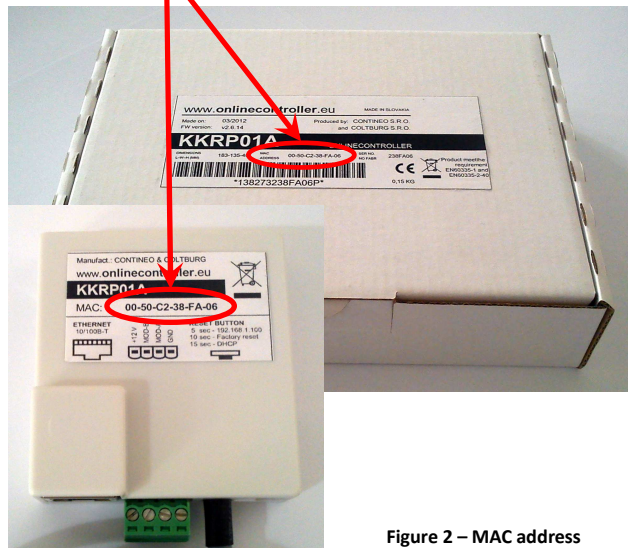

Figure 2 – MAC address
- MAC address:** **00:50:c2:38:xx:yy** (see Figure 2)